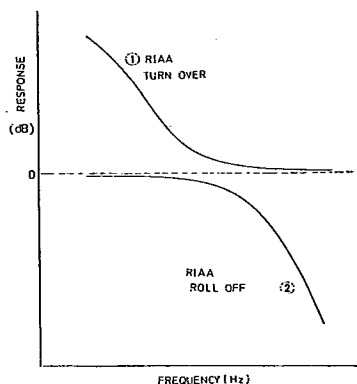
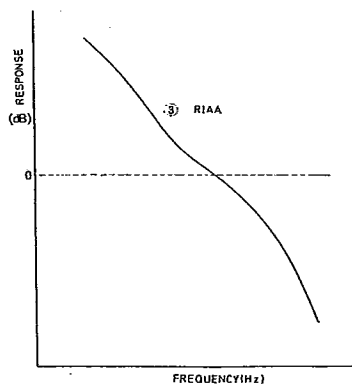
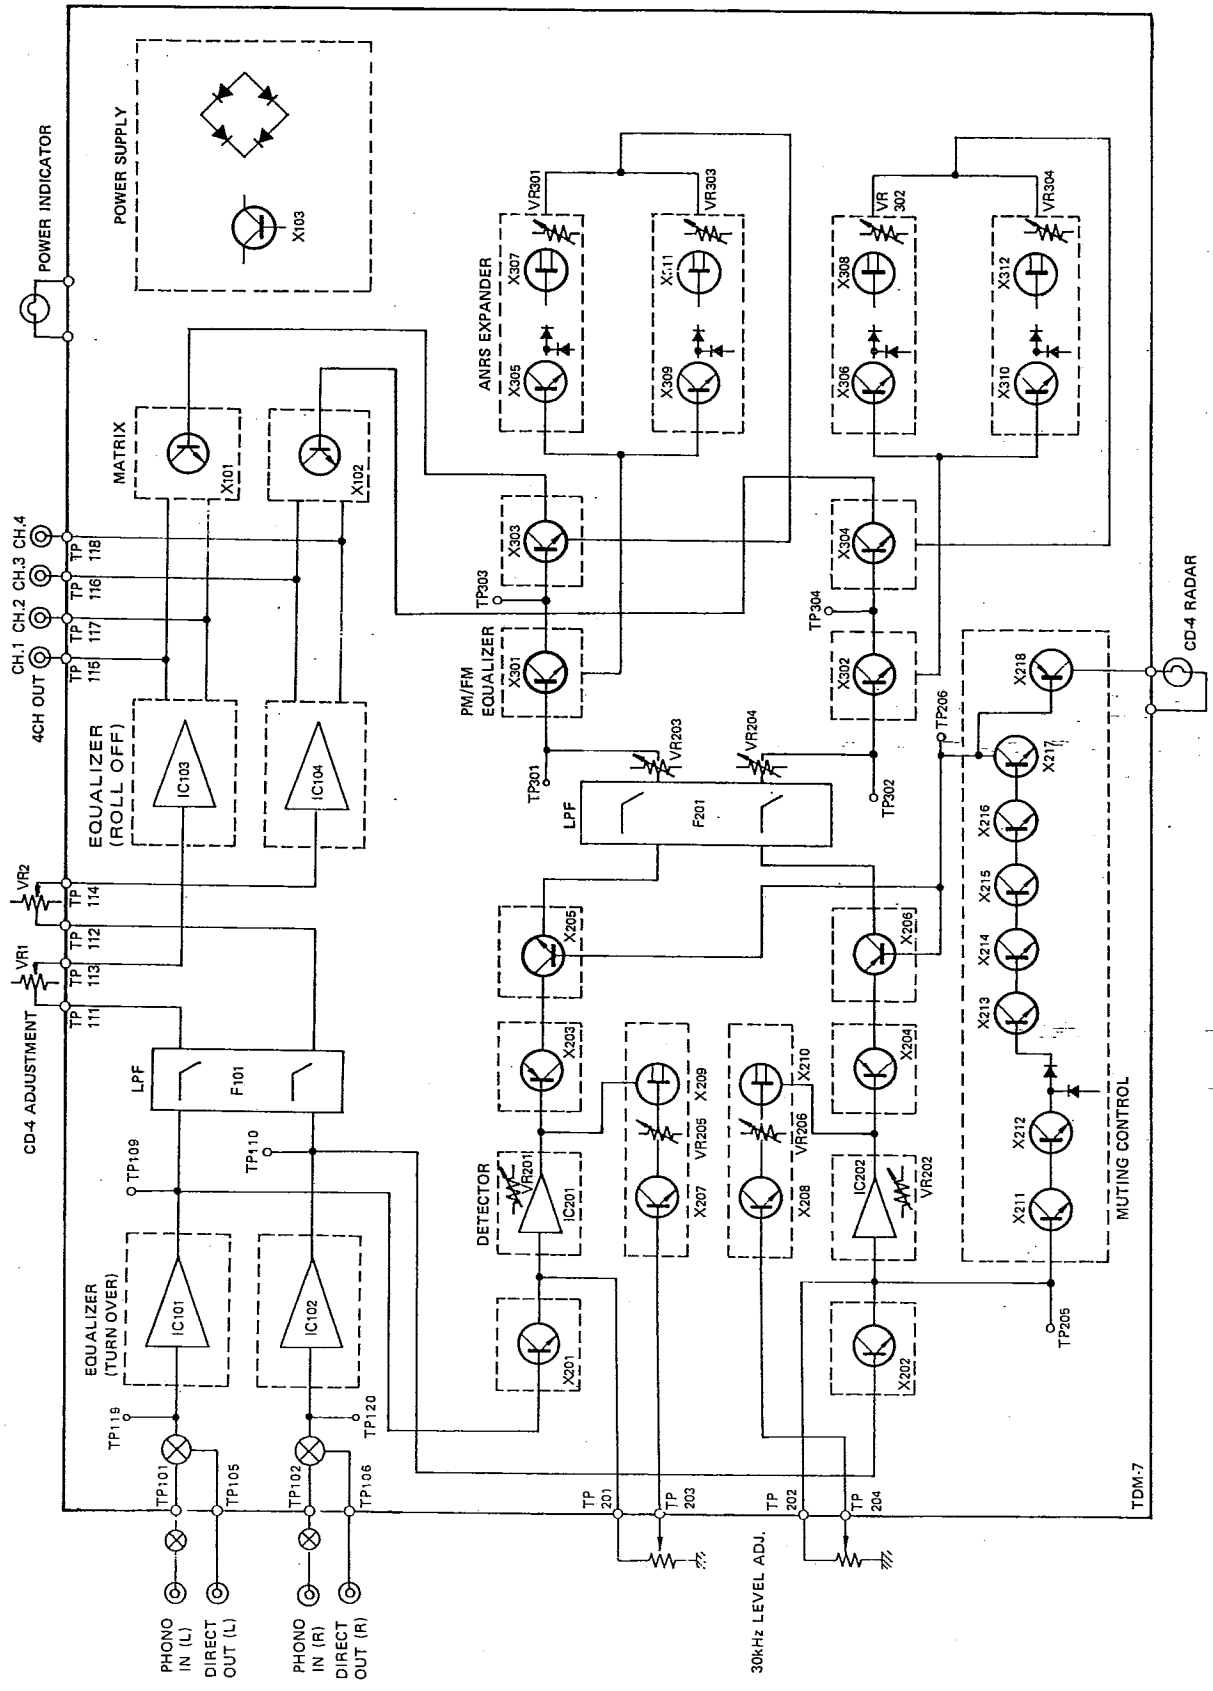

Fig. 3
Fig. 4
Fig. 6
In the block diagram Fig. 6, the player output enters the equalizer (1/2) (IC101 - 102). This equalizer has a characteristic shown by curve (1) of Fig. 3, which is an RIAA standard turnover curve. On the other hand, the equalizer (2/2) consisting of IC103 - 104 has an equalization curve corresponding to the RIAA roll-off characteristic, as shown by curve (2) of Fig. 3. In conjunction these two equalizers give the complete RIAA equalization shown by curve (3) of Fig. 4. Therefore, the sum signal mentioned in the previous section takes the complete RIAA curve transformation before entering the matrix circuit and the carrier signal goes to the demodulator circuit block transformed by the RIAA turnover curve. F101 (low-pass filter) cuts off the difference signal at 15kHz. The modulated signal is detected by PLL (IC201, 202).